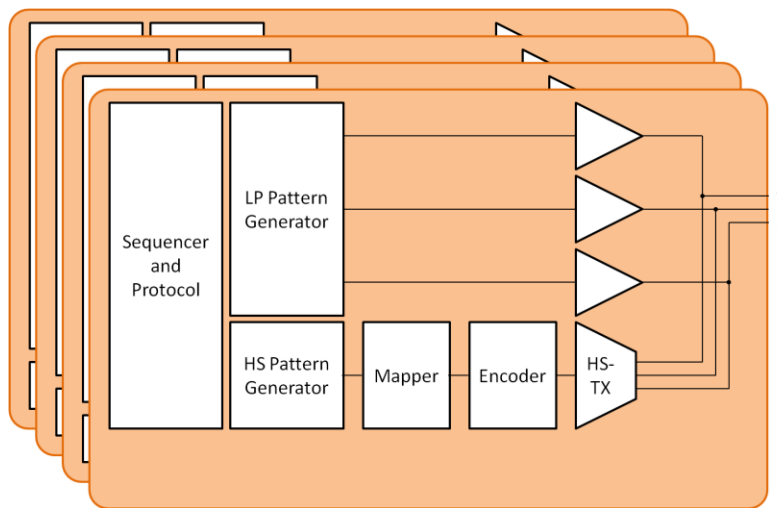

Figure 1 Block diagram of C-PHY generator inside SV4E
The SV4E is a pattern-generator compliant with the most recent MIPI C-PHY specifications, including creation of low-power (LP) and high-speed (HS) protocol events. Figure 1 illustrates the block diagram and the architecture that allows unique control over LP and HS events, ensuring compliant DSI-2 packets and video frame transmission.